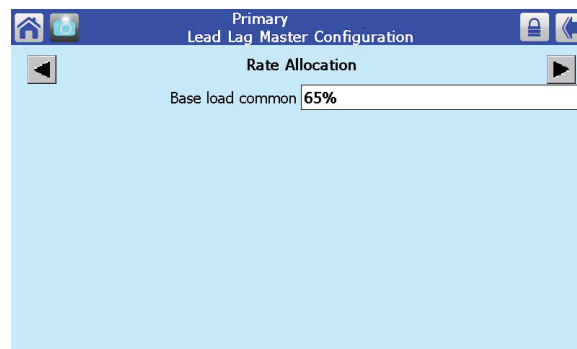

Fig. 89 – Rate Allocation
11. Press the left-arrow or right-arrow until you see the Rate Allocation screen (Fig. 89).